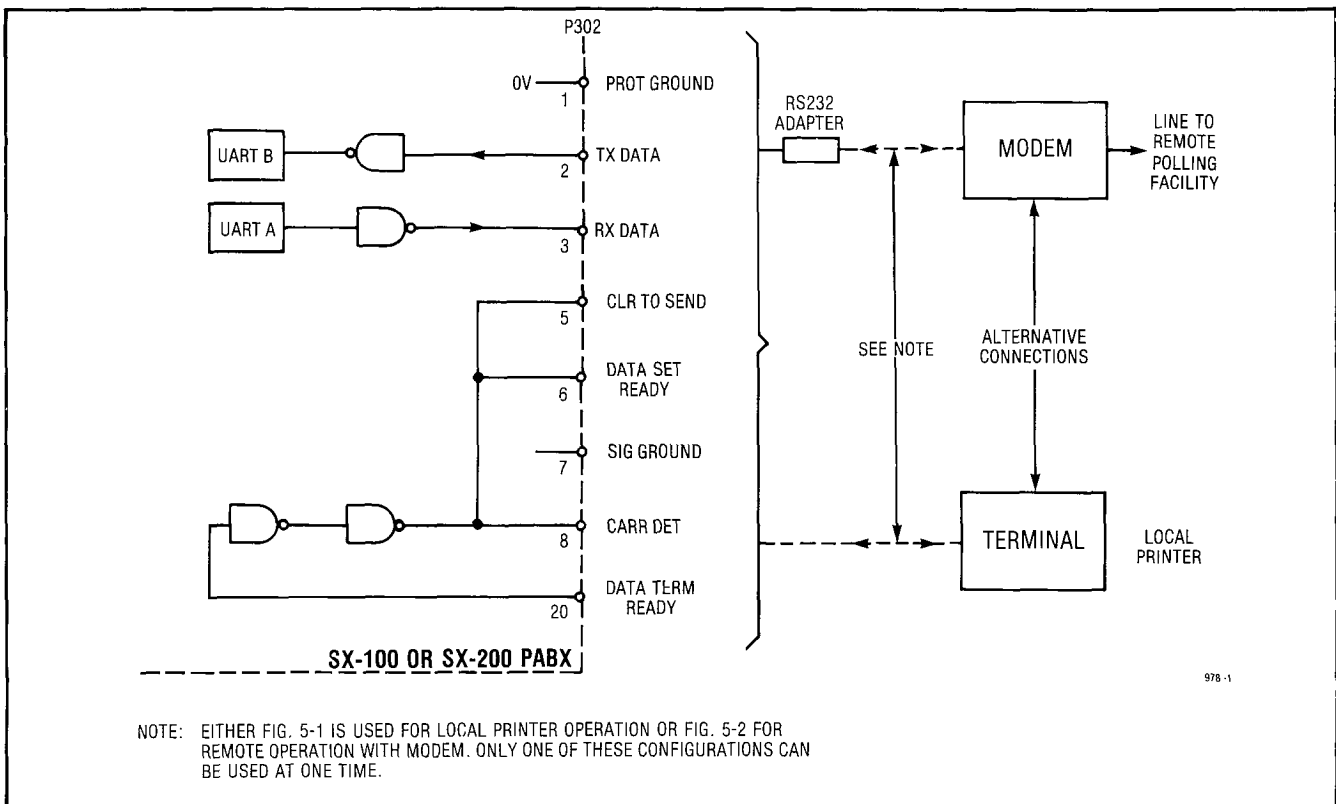

Fig. 4-1 Alternative Configurations - PABX Data Port
4.01 Fig. 4-1 shows the external connections to the PABX data port connector P302. The port may be connected via a RS232 Adapter either to an external modem for the remote polling facility or to a local terminal (printer). Both types of connections cannot be simultaneously employed.
- (c) Determination of the required output configuration (see Fig. 4-1)